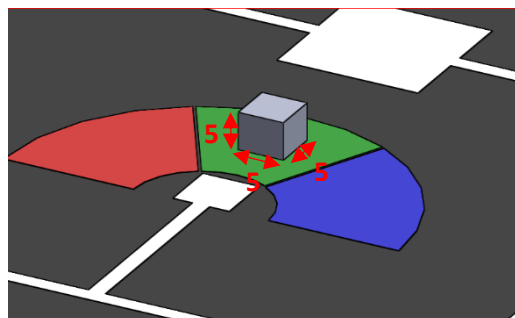
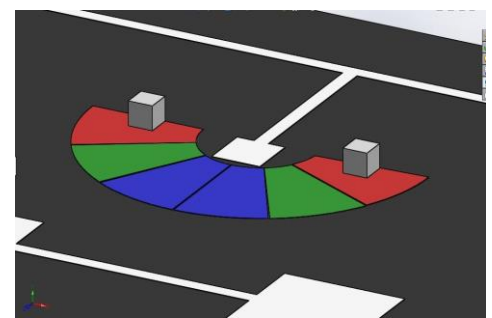

Figure 3.5
Figure 3.6
- At the beginning of an attempt a 5cm x 5cm x 5cm white cube is placed on the green sector of Area-1 (refer Figure 3.5) and two such cubes are placed the two red sectors of Area-2 (refer Figure 3.6). These cubes are not fixed and can be moved.